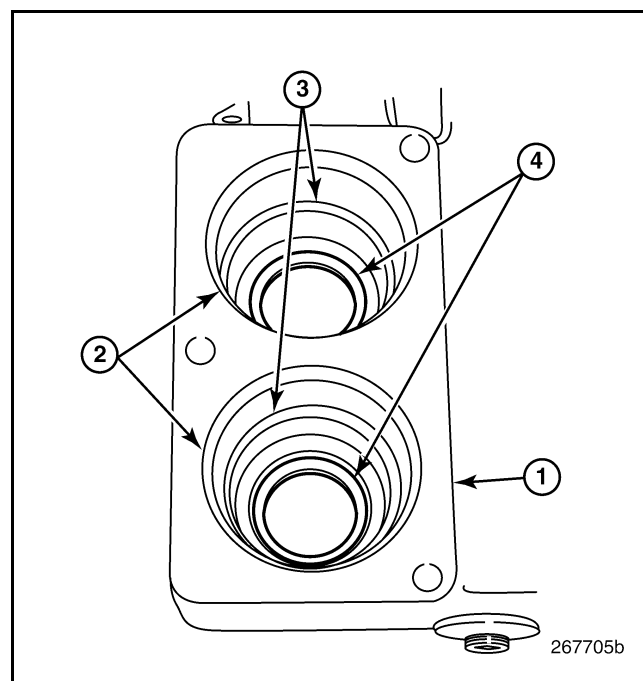

Figure 469 — Wear Rings Installed
- Check to see that the stainless steel wear rings/shields are properly installed in the thermostat housing (Figure 469).